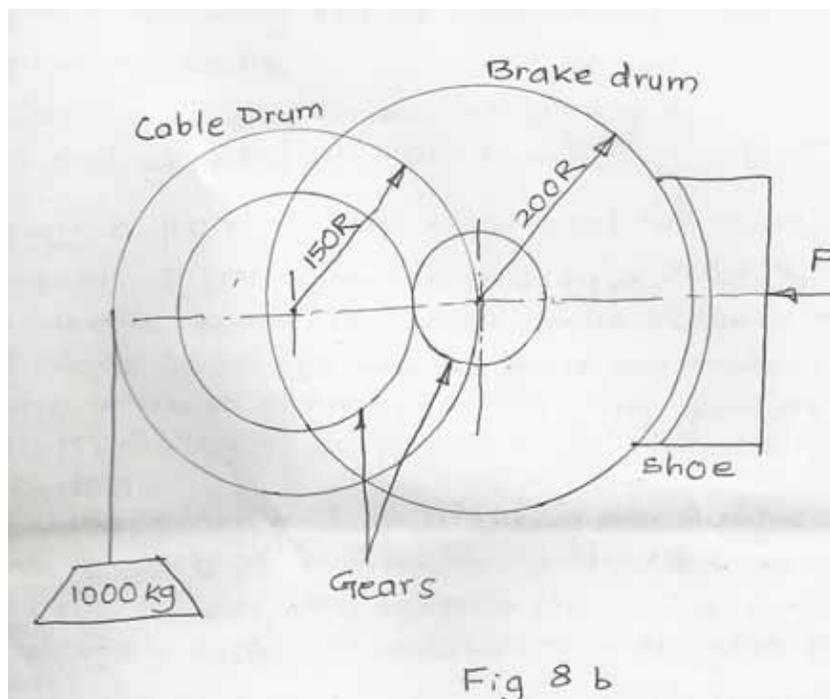

Fig. 8b
b) A block brake with a short shoe is shown in Fig. 8b. It is designed so that the product  $p \times V$  is limited to 2.